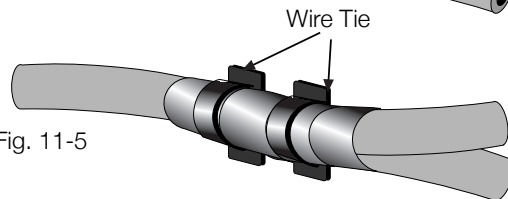

Fig. 11-5
- D. Cover the exposed wires with several wraps of electrical tape or mastic. Place one wire tie over the electric tape over the exact location where the wires are 'wrapped' together. Place another wire tie 1" to 2" from the first wire tie, to secure the two wires together and as stress relief. See Fig. 11-5